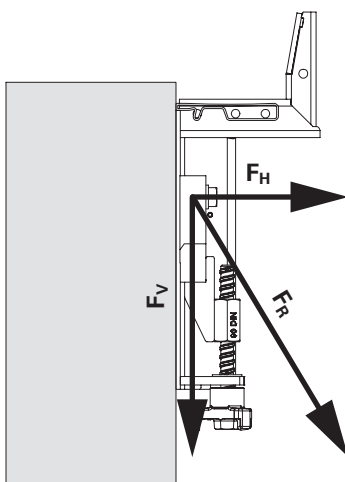

Fig. A2.06
- Please observe permissible anchor forces when selecting the fixing materials. (Tab. A2.03 + Fig. A2.06)